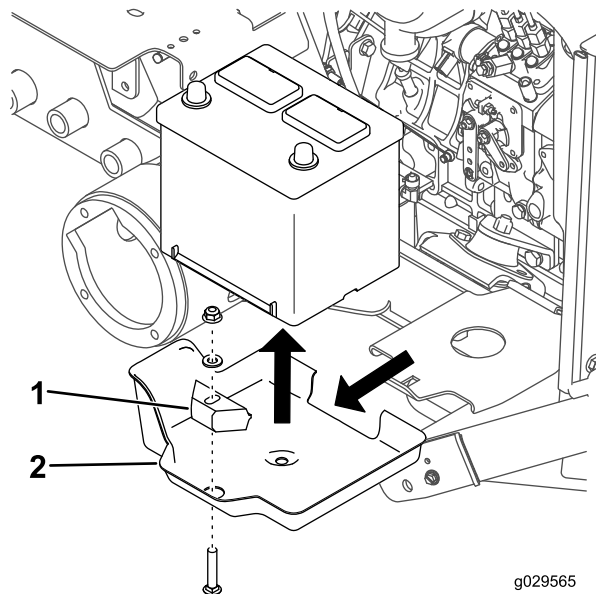

Figure 8
3. Remove the carriage bolt, washer, battery hold-down, and nut securing the battery (Figure 8).
4. Remove the battery from the battery tray (Figure 8).
5. Remove the battery tray from the battery platform (Figure 8).